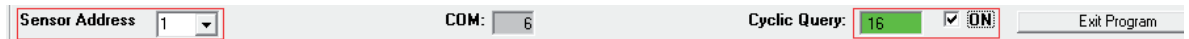

Fig. 12: Communication bar of commissioning software
6. Start the communication by clicking the “ON” check-box. Cyclic Query turn green and start to count up (Fig. 12)